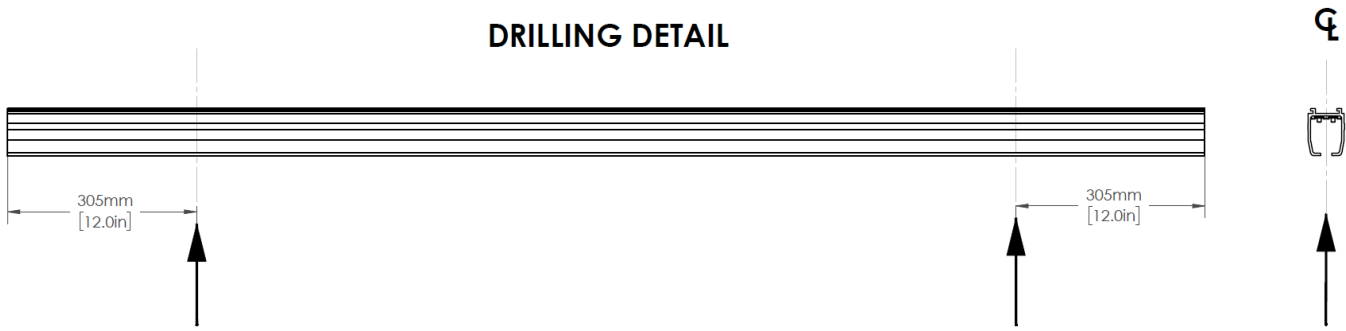

Figure 314: **Drill from the Bottom Up, Through the Channel**
- As shown in Figure 314, drill from the bottom up, through the channel, to ensure you drill between the metal segments of the TransStrip.